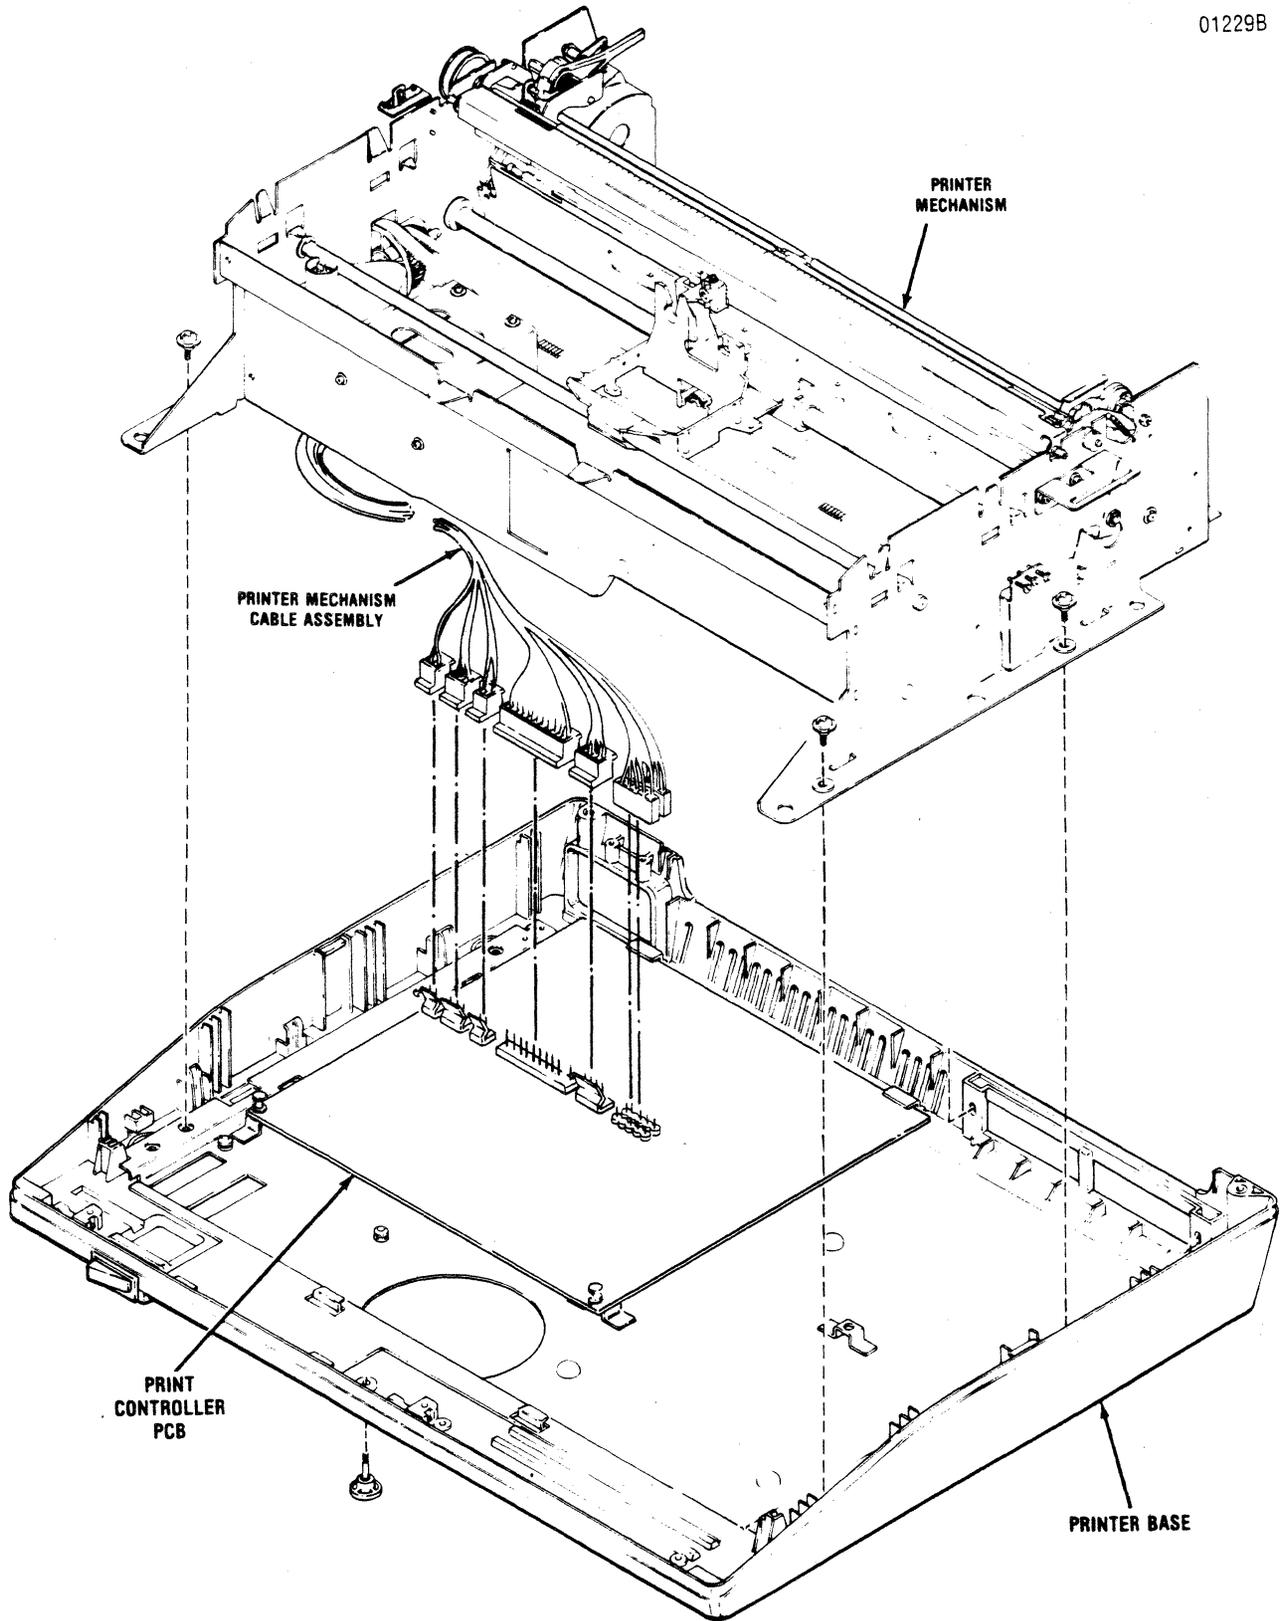

Figure 3-7 Removal/Replacement, Printer Mechanism
3.10.2 REMOVING PRINTER MECHANISM—The mechanism is removed using a Phillips screwdriver. To remove the printer mechanism, refer to Figure 3-7 and perform the following steps: